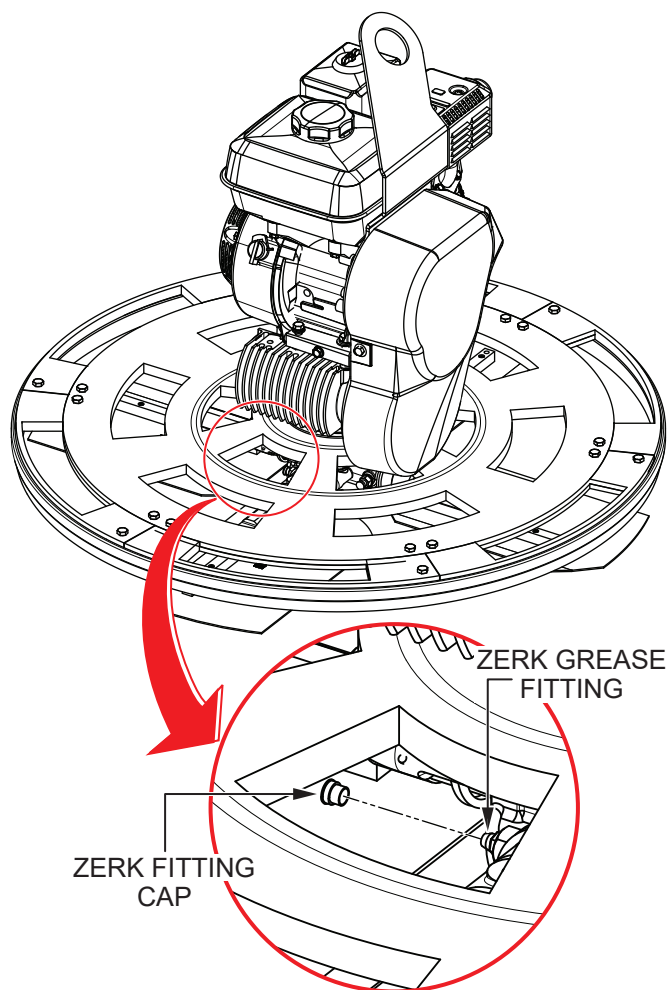

Figure 64. Spider Lubrication
1. Locate one of the Zerk grease fittings on the spider assembly (Figure 64). Remove the Zerk fitting cap and set it aside.